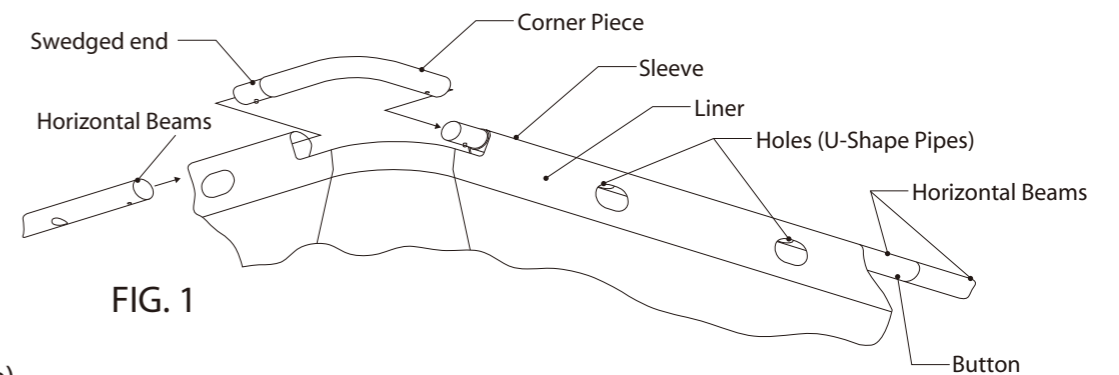

FIG. 1
2. Locate the four metal (Corner Pieces) of pipe Fig. 1, then place one at every corner of the pool. Now locate the (Horizontal Beams), insert a (O-Shape Spring) see Fig. 2 in each smaller swaged end of these only to join the beams together in length, Note: No O-Shaped Springs are used in the Horizontal Beam end attaching to the corner pieces or in the corner pieces themselves, please see the assembly drawing page 5 for proper O-Shaped spring locations.
direction around the pool with all swaged parts pointing clockwise) see Fig. 1 and refer to the **5** "View of All Frame Assembly Parts" shown on page 5.
5. Connect the (Horizontal Beams) together pushing the button in as you insert one beam into the other beams end. Look through the locking hole in the beam as you join them, slightly rotate the beams until the button aligns with the hole and pops up, locking that beams end into the other beams end. Repeat this procedure for the remaining (Horizontal Beams) making certain the holes in the beams align with the openings in the pool sleeve Fig. 1 these holes are used for the U-Shape Pipe (end) and (side) supports. Next install the corner pieces (**again working in a clockwise direction with swaged ends pointing clockwise**), slide them together and repeat this procedure for all corners, on the last corner it might be necessary to lift the final joining connection at an angle to allow the pipes to fit into each other slowly lowering the ends flat again then sliding them together until it fits in completely, this step may require two people. Now double check all (Horizontal Beam) and (Corner Piece) connections at this time.